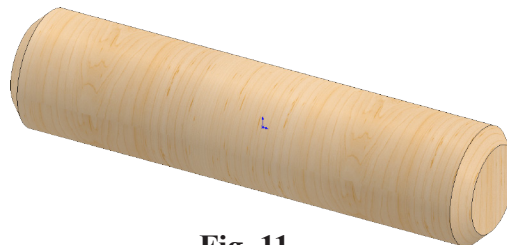

Fig. 11
Step 2. Expand **Woods** in the material tree and click **Maple**. Click **Apply** and **Close**, **Fig. 11**.